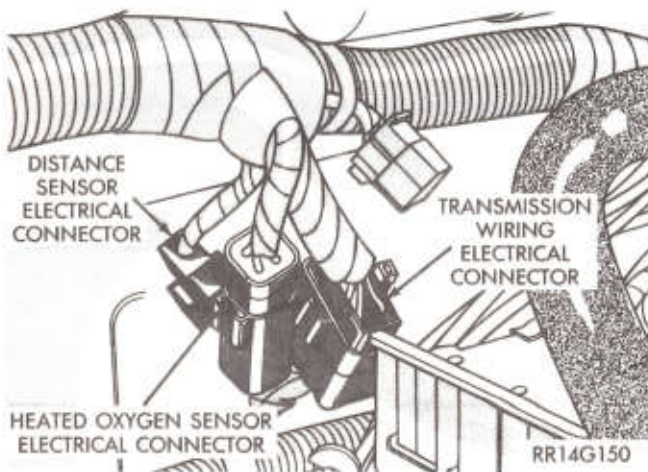

Fig. 8—Heated Oxygen Sensor Electrical Connection 5.2L Engine
(11) Verify that 4-way connector is attached for heated Oxygen Sensor 3.9L Engine (Fig. 8).